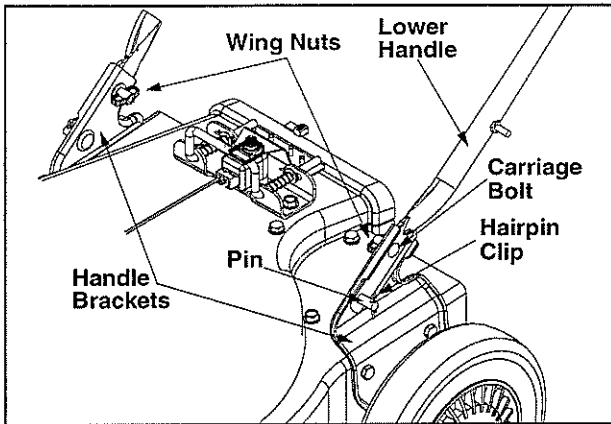

Figure 3
- Remove the hairpin clips from the handle brackets and the carriage bolts and wing nuts from the lower handle. See Figure 3.